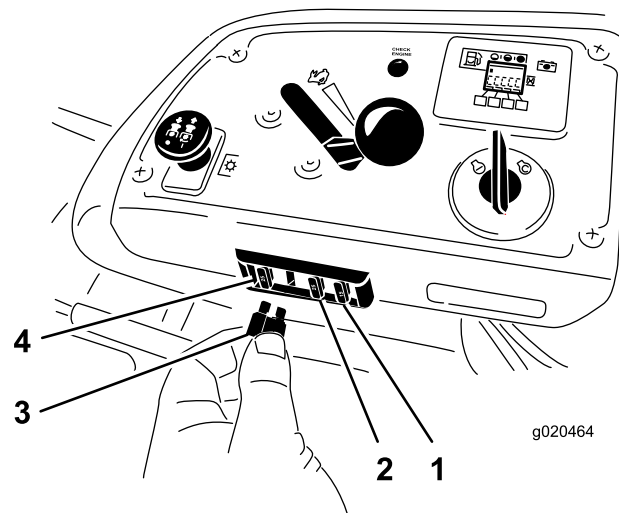

Figure 59
1. The fuses are located on right hand console next to the seat (Figure 59).
3. Install a new fuse (Figure 59).